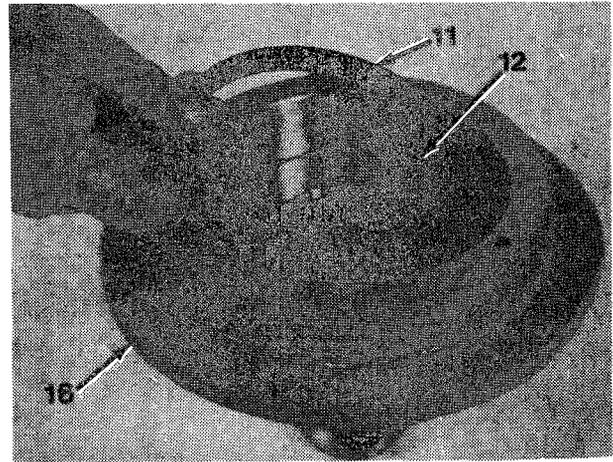

Figure 16-4
4. Remove piston back-up ring (11) and pressure plate (12) from brake cylinder (16, Figure 16-4).